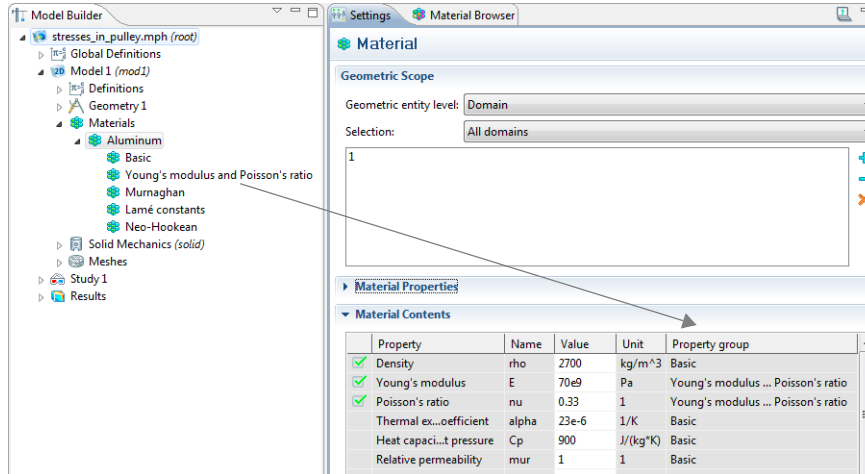

Figure 6-4: An example of Property Groups on the Material page.
View lists of all the default material data. The table lists the **Property**, **Name**, **Value**, **Unit**, and the **Property group**. The **Property group** corresponds to the nodes in the **Model Builder** with the same name (see Figure 6-4). If required, edit a default property **Value**.
Material property groups are automatically added to the material node in the **Model Builder**. You can also add additional predefined property groups or create your own **User defined property group**. The available properties are grouped together differently according to the physical context. For example, the **Copper** node in Figure 6-4 contains the following default property groups: **Basic**, **Young's modulus and Poisson's ratio**, and **Linearized resistivity**.
- 2 In the **Model Builder**, click **Basic** to open the **Property Group** page. See Figure 6-4.